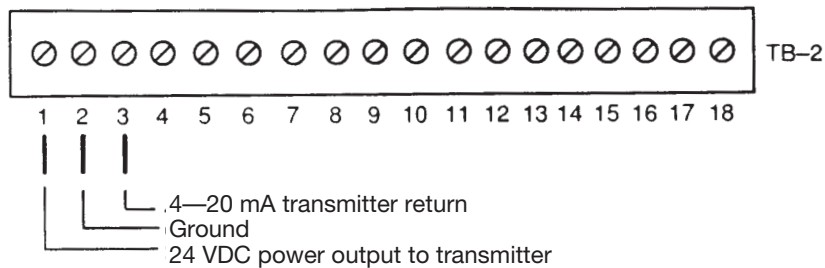

FIGURE 3
2. Connect the transmitter wires as shown in Figure 3 . A two wire transmitter should be powered with the 24v DC supply from the PMC-1 by connecting the positive wire to terminal number 1 and the other transmitter wire to terminal 3 of TB-2. Twisted pair wires can be used for connecting the transmitter to the PMC-1. If a shielded pair of wires is used, connect the shield to terminal 2 of TB-2. Jumper at J5/J6 must be on J5. For 4-wire transmitters, see Appendix B.